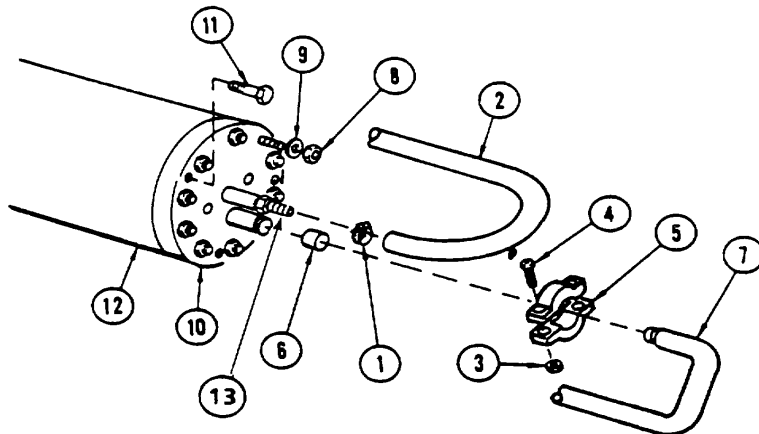

Figure 3-1. R.O. Vessel End Cap Assembly
c. End Cap Assembly (Refer to fig. 3-1).
- (1) Loosen hose clamp (1) and remove tubing (2) from end cap (10).
- (2) Remove nut (3), bolt (4), clamp (5), and bushing (6) from elbow (7).
- (3) Swing elbow (7) away from end cap (10).
- (4) Remove nuts (8) and washers (9) from end cap (10).